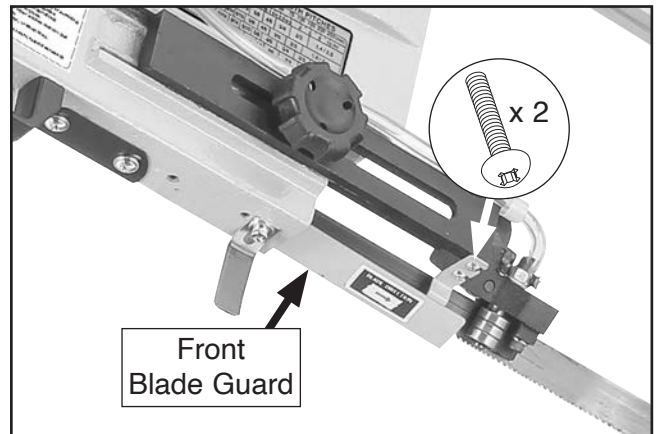

Figure 39. Location of front blade guard and screws.
5. Remove (2) screws shown in **Figure 39** to remove front blade guard.